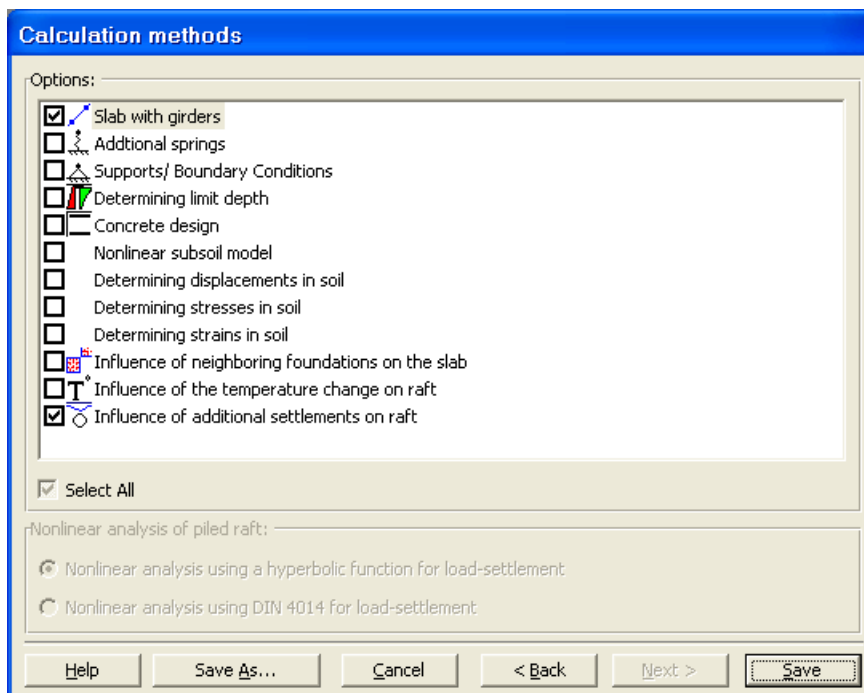

Figure 13-38 "Options" list
- The last form of the wizard assistant contains the "Option" list, Figure 13-38. In this list, check the option "Influence of additional settlements on raft", then click the "Save" button